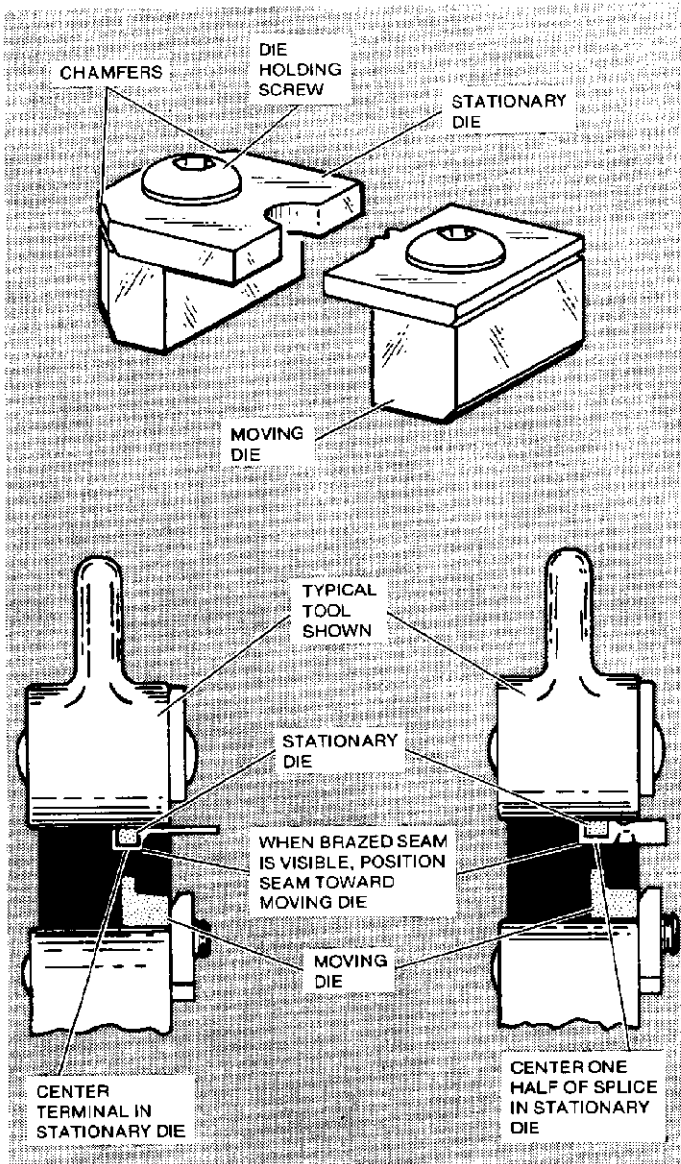
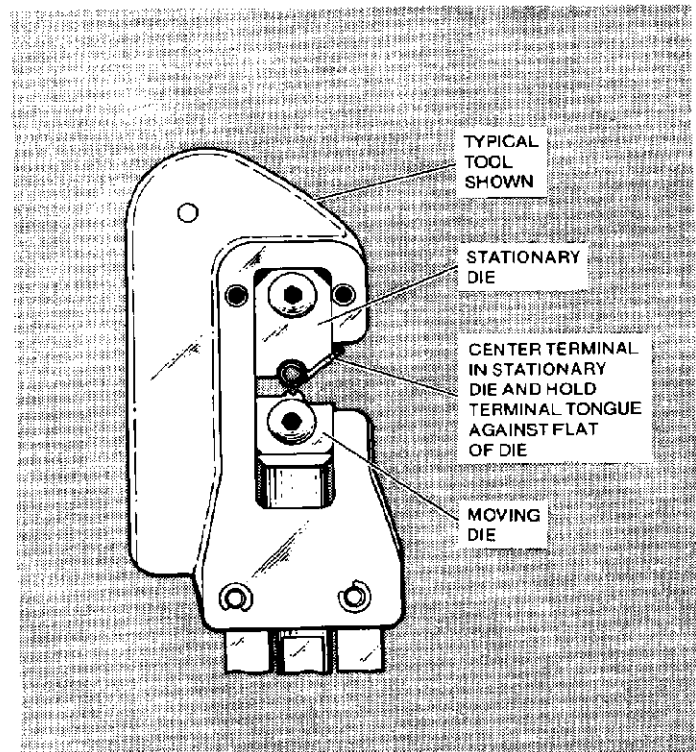

Figure 2
Figure 3
- Position stationary die in stationary die holder. Take up on die holding screw enough to hold die in place. Do not tighten screw. The stationary die is identified by the two chamfers on top of die. See Figure 2.
- Center terminal wire barrel in stationary die as shown in Figure 2 and activate tool to hold terminal in position.
- (b) Center terminal or splice wire barrel in stationary die. For best results, when brazed seam on terminal or splice is visible, position seam toward moving die. See Figure 2. Center flag terminal wire barrel in stationary die. Hold flag terminal tongue against flat side of die. See Figure 3.
- (a) Center terminal or splice wire barrel in stationary die. For best results, when brazed seam on terminal or splice is visible, position seam toward moving die. See Figure 2. Center flag terminal wire barrel in stationary die. Hold flag terminal tongue against flat side of die. See Figure 3.